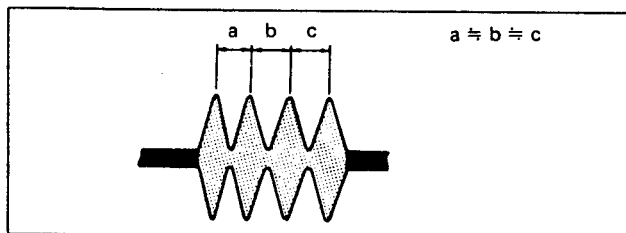

Fig. 2-43.
Make sure that the waveforms have equidistant peaks (See Fig. 2-43). If not, perform according to para 2-7-4, Tracking Fine Adjustment, and 2-7-5, No.4 Guide Adjustment.
- 2) Set in CUE mode. Make sure that the waveforms have equidistant peaks (See Fig. 2-43). If not, perform according to para 2-7-4, Tracking Fine Adjustment.